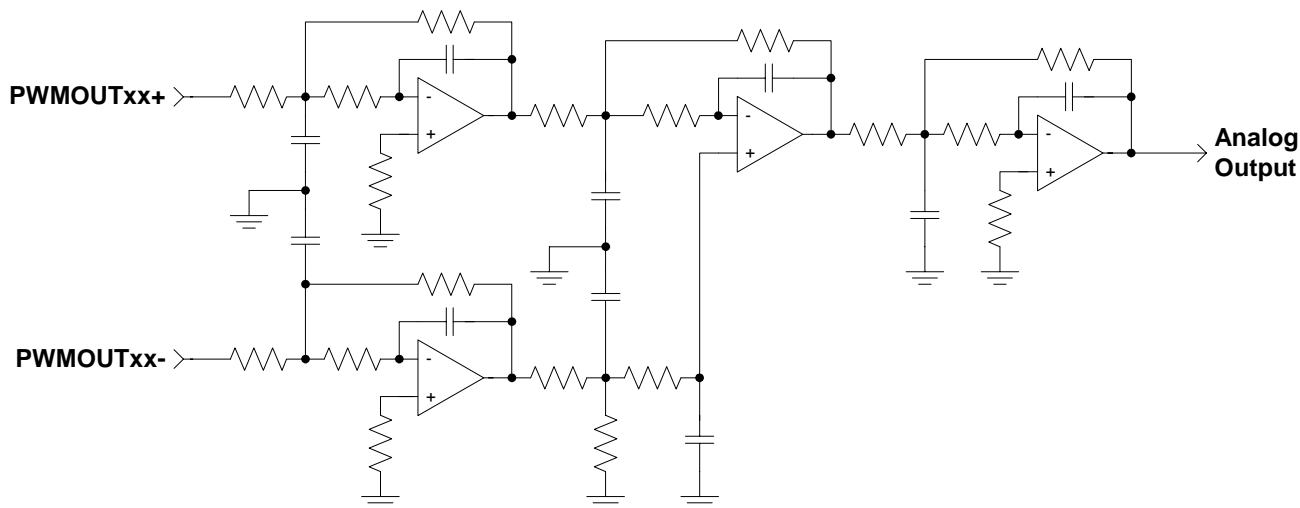

Figure 1. Performance Characteristics Evaluation Active Filter Circuit
11. Performance characteristics measured using filter shown in Figure 1.